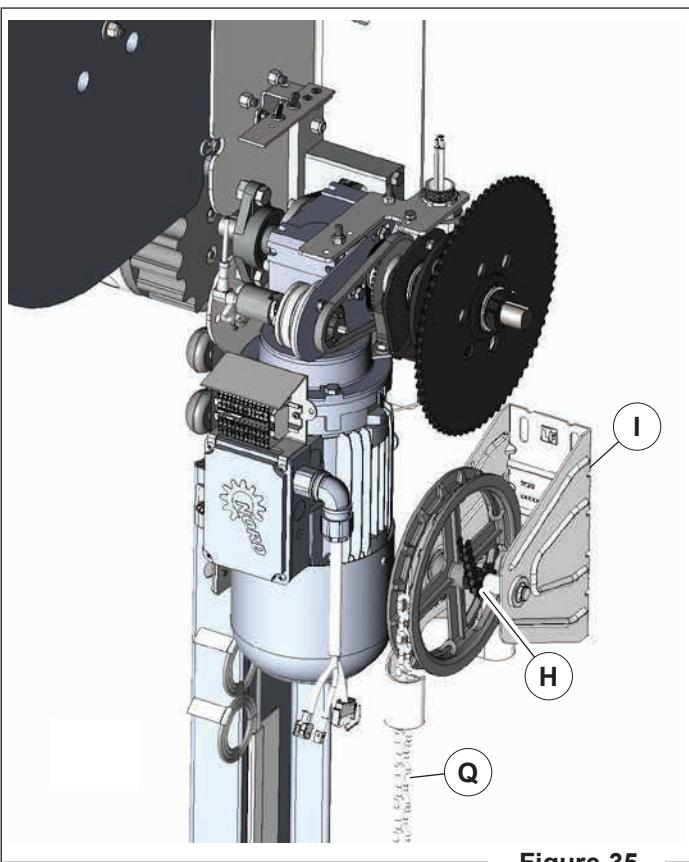

Figure 35
4. Install engagement arm bracket (D) with limit switch toward gearbox.
5. Install the (2) 1/4in x 1/2in [M6 x 13mm] bolts and 1/4in [M6] lock washers through the engagement arm on the top and side to hold the bracket in place (**Figure 35**).
11. Place the drive chain (H) around the chain hoist sprocket and then place the drive chain over the drive tube driven sprocket (**Figure 35**).
13. With the hand chain sprocket in toward the motor and the sprocket in line with the drive sprocket, plumb, level, mark and drill hole locations (toward bottom of the slot, to prevent chain hoist from sliding up) for fastening chain hoist assembly (I) to the wall. Use fasteners suitable to hold unit to the wall.
17. Install the hand chain (Q) (Figure 35) onto the chain hoist, down through hole in hand lever/chain blocker assembly and around chain tensioner pulley. The chain links can be taken apart to achieve the length needed.